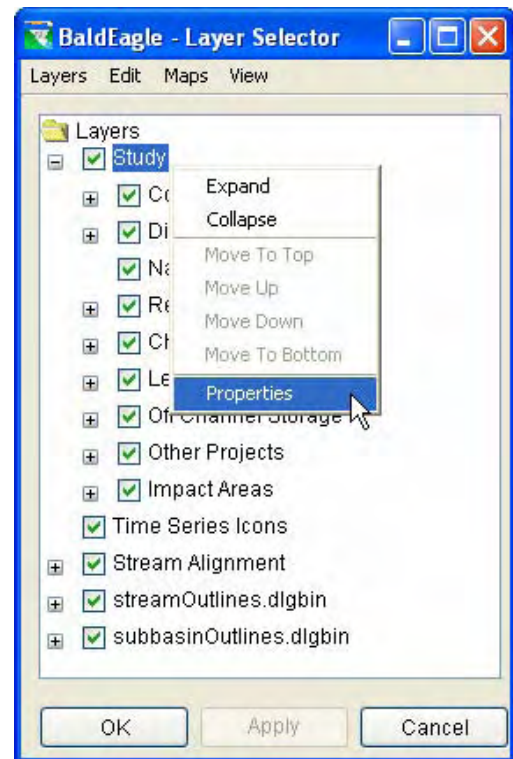

Figure C.1 Layer Selector Dialog Box
To access the map layer editors for a map layer, open the **Layer Selector** (Figure C.1) by selecting **Layers...** from the **View** menu of any module (note that some layers are visible only in specific modules; see Chapter 4). Double-click on the map layer name in the Layer Tree or right-click on the map layer name and select **Properties** from the shortcut menu. An editor specific to the type of map will open.
6. Click **OK** to close the **Layer Selector** dialog box (Figure C.1).